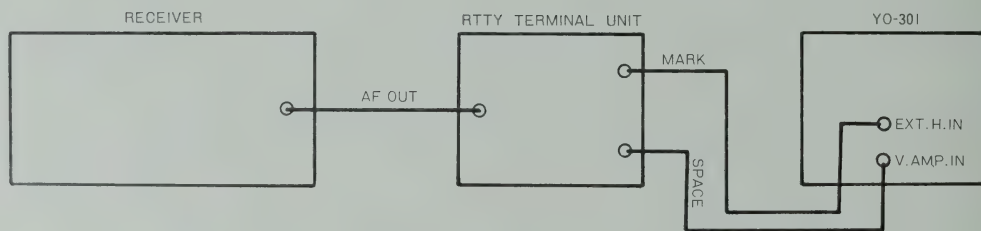

Figure 7
- (1) Connect a shielded cable from the mark terminal of the RTTY terminal unit to the HORIZ input and the other cable from the space terminal to the V. AMP. INPUT of the monitorscope, as illustrated in Figure 7.
- (2) Set the front panel controls as described in the initial adjustment procedures. Then set the V. AMP. INPUT to V. AMP. and the SWEEP FREQ to EXT. H (RTTY) position. Make sure that the INTENSITY control is set as low as possible to protect the screen when no signal is applied to the monitorscope.
- (3) The mark and space output of the terminal unit should be adjusted for an equal output when the receiver is properly tuned in. To check the equal output, insert the mark and space signal alternately into the vertical input of the scope and adjust the balance potentiometer of the terminal unit until equal height is obtained.
- (4) After setting the balance potentiometer for equal output as described above, adjust the V. GAIN AND H. GAIN controls for a cross pattern of equal length of horizontal and vertical trace. Once the desired pattern has been set, the gain controls on the monitorscope should not be changed.